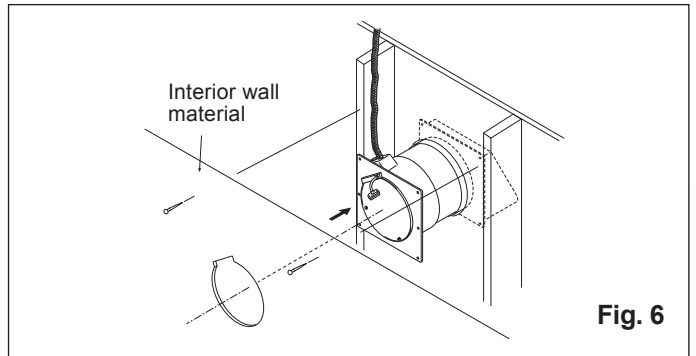

Fig. 6
- Using enclosed template (pattern paper), mark and cut the opening in the interior wall cover. (Fig. 6)